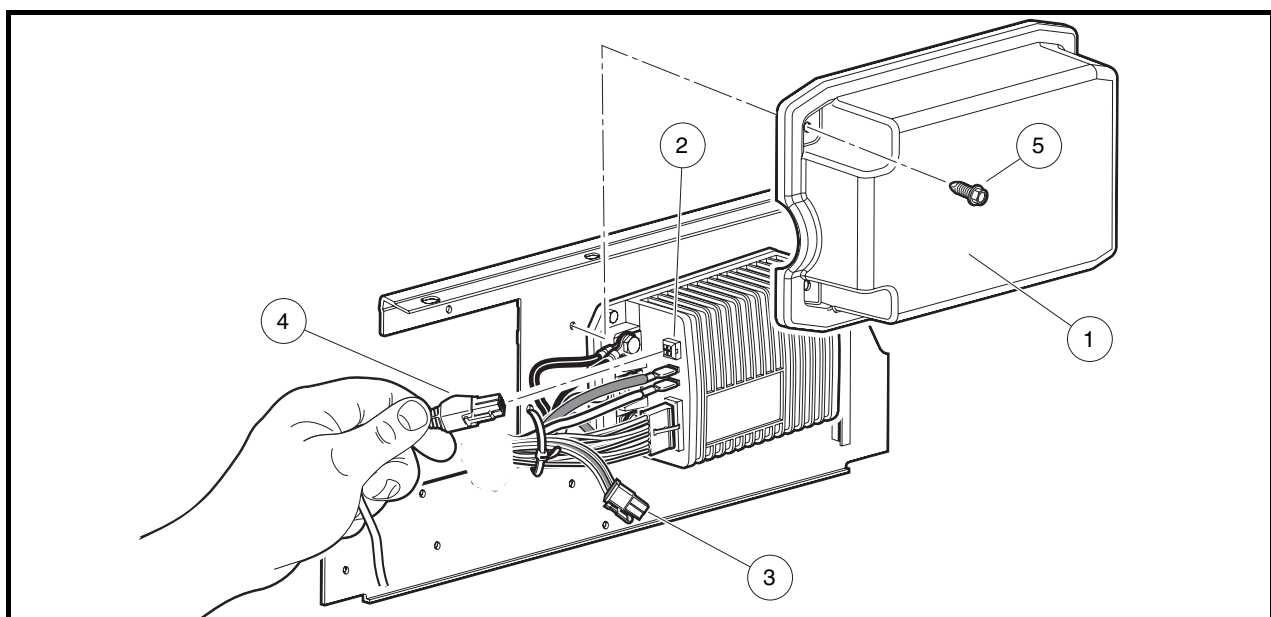

Figure 12-12 IQ System Component Mounting Plate
- 4.2. Remove the two screws (5) securing the controller cover (1) to the component mounting plate (**Figure 12-12, Page 12-20**).
- 4.5. Connect the other end of the handset cord (without the adapter) (4) to the four-pin connector of the speed controller (2) (**Figure 12-12, Page 12-20**).